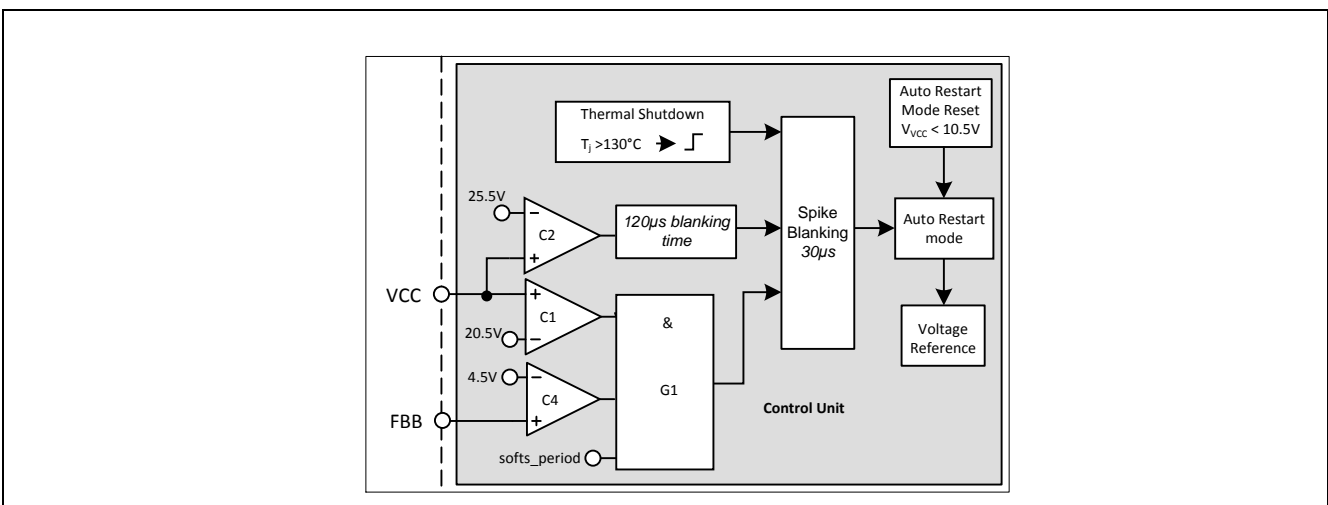

Figure 30: V_{cc} OVP and OTP
V_{cc} OVP (1) condition is when V_{VCC} voltage is > 20.5V, V_{FBB} voltage is > 4.5V and during soft start period, the IC enters into odd skip Auto Restart Mode. This condition likely happens during start up at open loop fault (Figure 30).
V_{CC} OVP (2) condition is when V_{CC} voltage is > 25.5V, the IC enters into odd skip Auto Restart Mode (Figure 30).
The over temperature protection OTP is sensed inside the controller IC. The Thermal Shutdown block keeps on monitoring the junction temperature of the controller. After detecting a junction temperature higher than 130°C, the IC will enter into the non switch Auto Restart mode. The ICE3AR1580VJZ has also implemented with a 50°C hysteresis. That means the IC can only be recovered when the controller junction temperature is dropped 50°C lower than the over temperature trigger point (Figure 30).